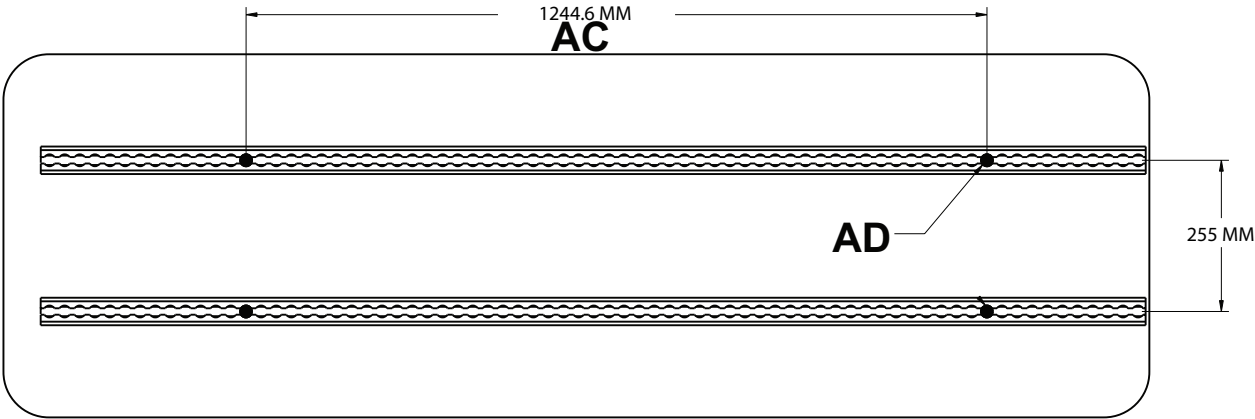
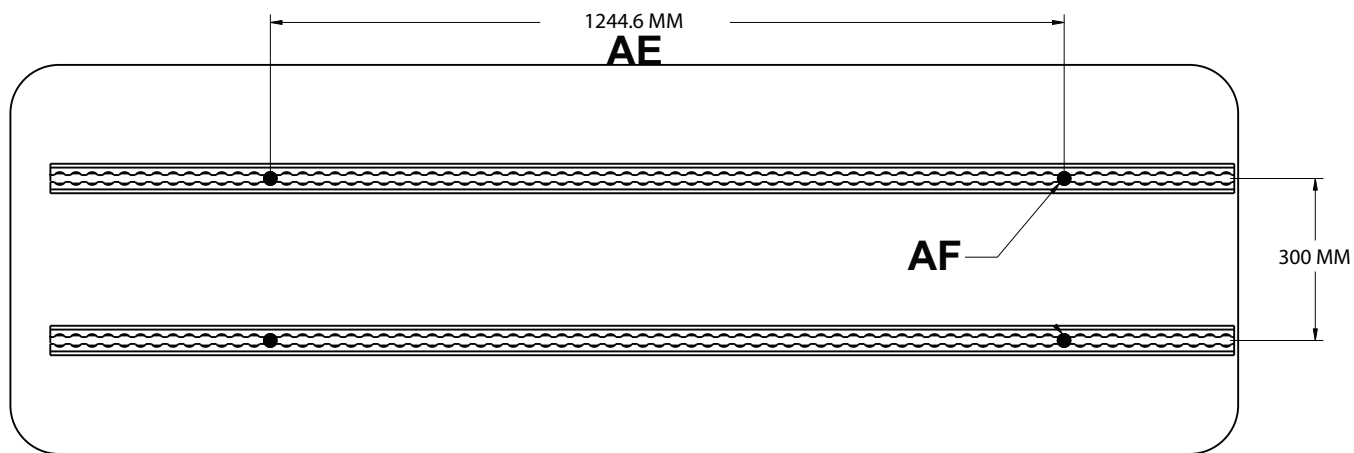

Figure 10 – Floor track installation locations
Figure 11 – Floor track installation locations
4. Identify the location for the foot end fastener and head end fastener from Figure 10 for Model 6386 and Figure 11 for Model 6387.
4. Identify the location for the foot end fastener and head end fastener from Figure 10 for Model 6388 and Figure 11 for Model 6389.
- 2. Using the dimensions shown in Figure 10, identify where the floor tracks will attach.
- 2. Using the dimensions shown in Figure 11, identify where the floor tracks will attach.